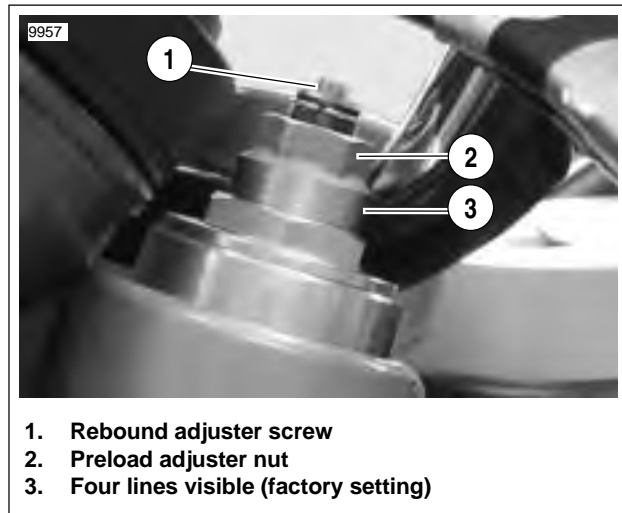

Figure 1-29. Front Fork Preload And Rebound Adjuster
1. Check number of lines (3) to be showing for your load condition. Refer to Table 1-9.
2. See Figure 1-29. Adjust preload by turning the adjuster nut (2) with a wrench.
1. See Figure 1-29. Using a screwdriver, turn the slotted dial (1) clockwise until it stops. This is the maximum rebound damping setting.